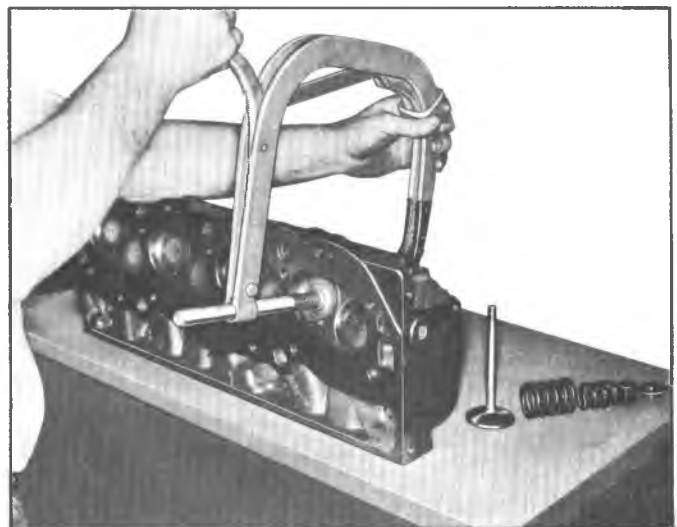

Fig. 13—Compressing Valve Spring
2. Using Tool J-8062, compress the valve springs (fig. 13) and remove valve keys. Release the compressor tool and remove rotators or spring caps, spring shields (if so equipped) springs and spring damper, then remove oil seals and valve spring shims.